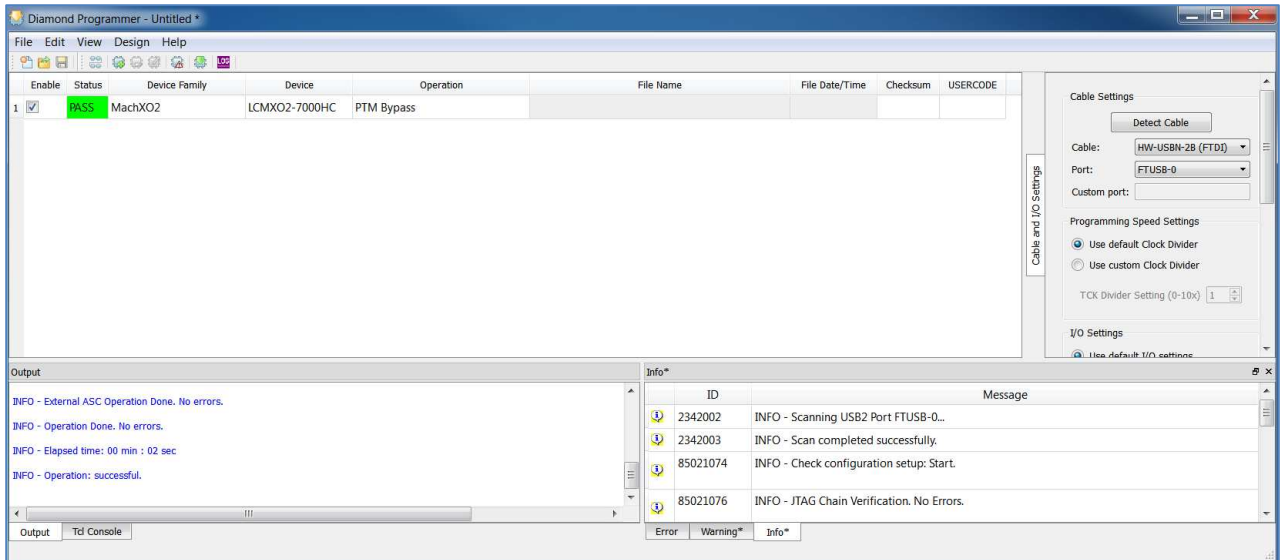

Figure 5.22. ASC Socket – Programming Completed
- When the programming of the device is completed, the **Status** option changes to **PASS** and **Operation: successful** message appears in the **Output** console as shown in Figure 5.22. During the programming activity the MXO2_SDA and MXO2_SCL LED light blink on the board showing communication between the MachXO2 and ASC devices. *Done* is not a dedicated output in the MachXO2 family. *Done* LED indication is not supported.